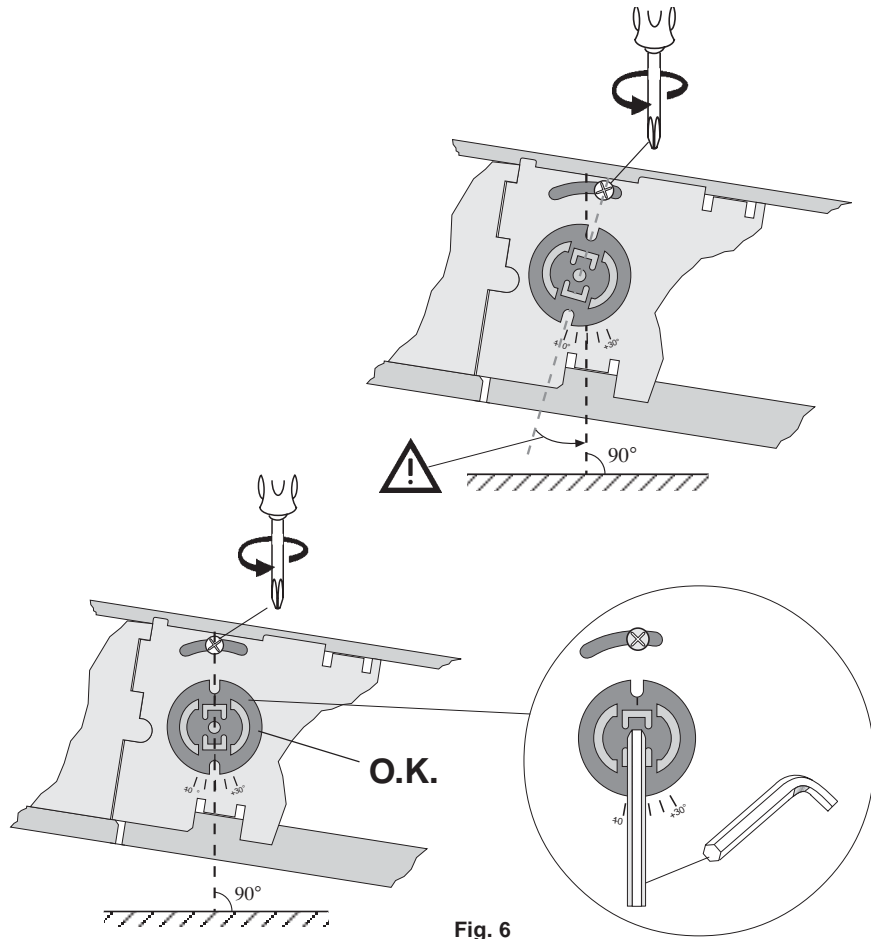

Fig. 6
**Caution!** Before inserting the TravelPilot completely, you must first level out the gyro (see Fig. 6).
Gyro adjustment .....	Fig. 6